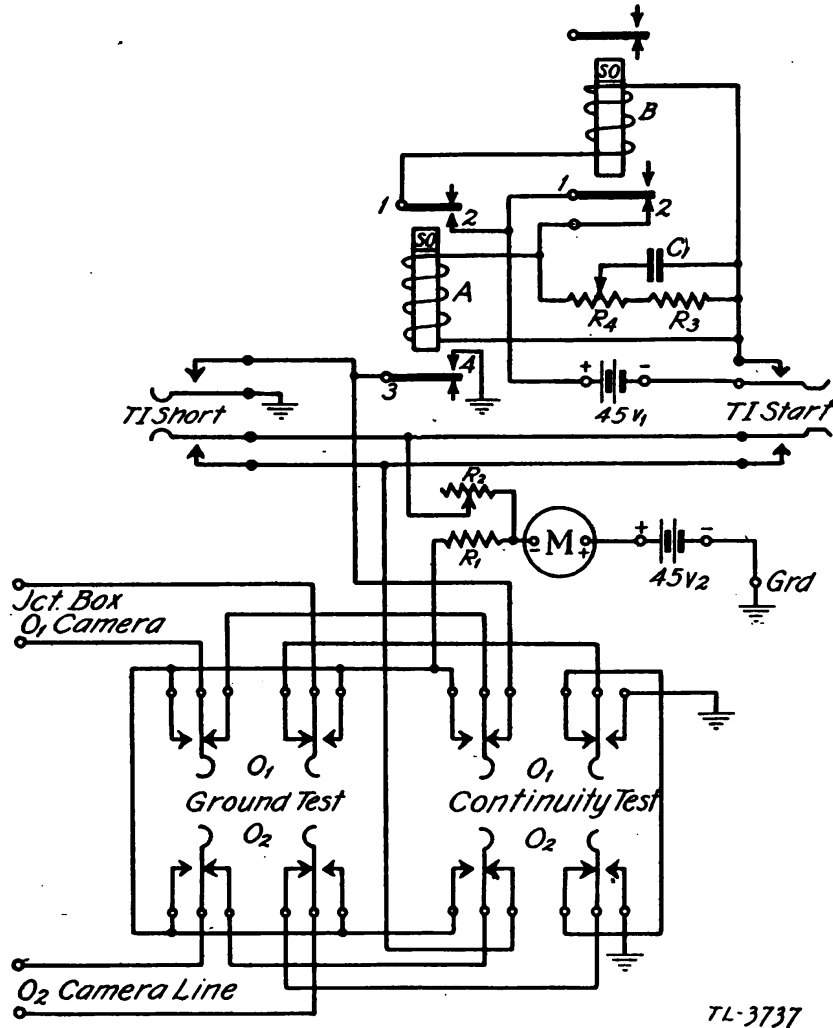

FIGURE 28.—Circuit diagram, time interval device PH-103.
(2) The camera optical system is identical in operation with that of theodolite PH-BD-33, discussed in paragraph 32*e*(2).
(3) The counter recording system is identical in operation with that of theodolite PH-BC-33 (par. 31*e*(3)).
34. Time interval device PH-103.—This time interval device circuit (fig. 28) consists basically of a relay pulsing circuit for supplying periodic direct current pulses on external lines, and test circuits for testing the lines. It is permanently mounted in a carrying case which also has space for the two batteries BA-26 required for its operation. One battery supplies power for the operation of the relays and the other for the external circuit and test circuits. If only one battery is available it may be used to supply both circuits in an emergency. The function of the time interval device is to supply periodic direct current pulses on the lines to the O_1 and O_2 theodolites and the time interval multiplier, for time measurement. Functionally, the operation of the time interval device may be considered under the four separate phases discussed individually below: